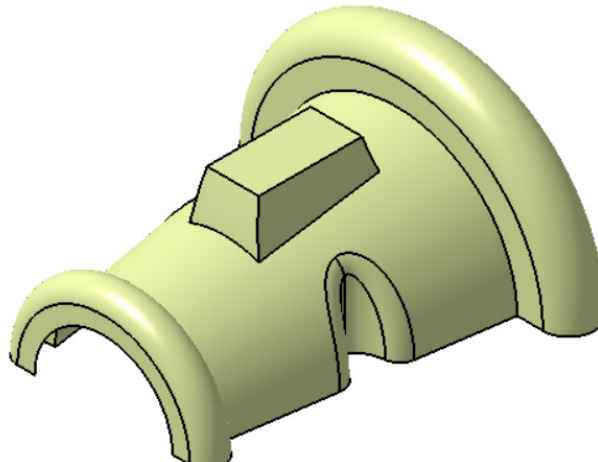

Figure 17-99 Resultant fill surface
3. Choose the **OK** button from the **Fill Surface Definition** dialog box to create the fill surface, as shown in Figure 17-99.